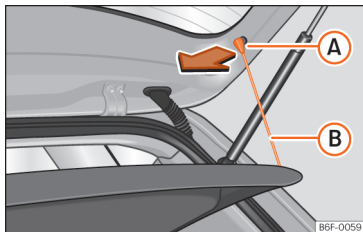

Fig. 174 In the boot: removing and installing the shelf.
- Detach the cord loops >>> **Fig. 174** **B** from their hooks **A**.
- Attach the securing straps >>> **Fig. 174** **B** onto the rear lid.